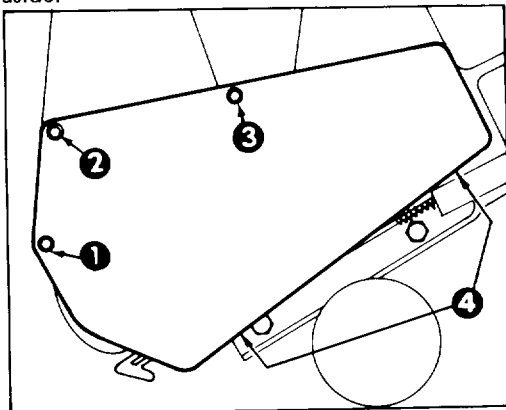

Figure 13
REPLACING DRIVE BELT (Fig. 13 & 14)
2. Remove (3) self tapping screws, (2) capscrews, (1) washer and (2) nuts securing belt cover to snowthrower frame (Fig. 13). Set belt cover aside.